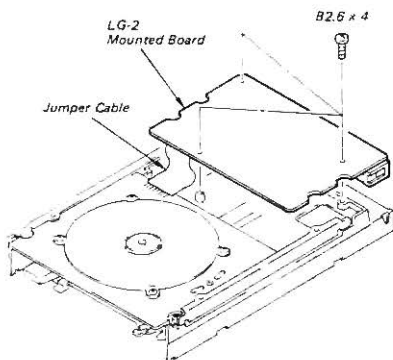

Fig. 4-3 LG-2 Mounted Board Replacement
- d. Remove the three screws (B2.6x4) securing the LG-2 Mounted Board and then remove the LG-2 Mounted Board. (Refer to Fig. 4-3)